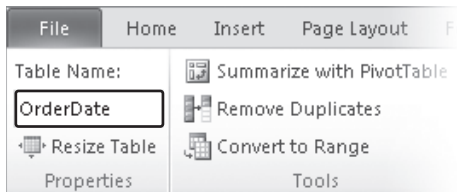
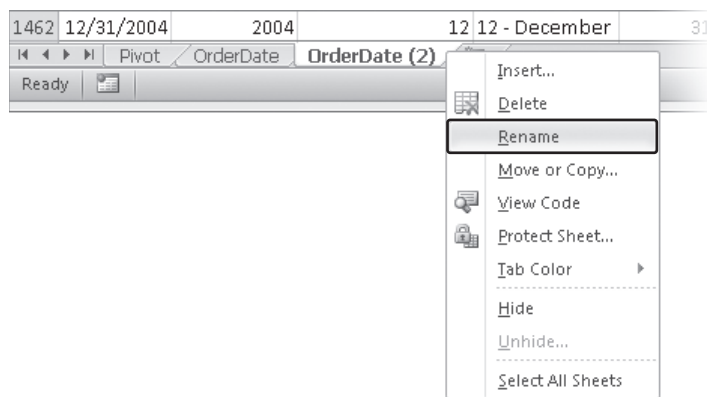

FIGURE 7-12 Renaming the table OrderDate, in Excel.
FIGURE 7-17 The Rename option in the context menu.
The second option requires you to copy and paste the existing Calendar table in Excel. Before you do that, you should rename the Calendar table in Excel, using the same name we used for the corresponding linked table in PowerPivot, which is OrderDate. To do that, you can type the OrderDate name into the Table Name text box available on the Design tab of the Table Tools contextual tab of the Excel ribbon, as you can see in Figure 7-12.
At this point, you rename both the table (using the same procedure you saw already in Figure 7-12) and the worksheet (by right-clicking on the OrderDate (2) label and then selecting Rename from the context menu that you can see in Figure 7-17); you use the new ShipDate name.